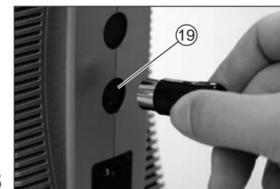

Fig. 5
Insert Foot Control⑮ plug in Foot Control Connector⑲ at the back of the control unit. (Fig. 5)